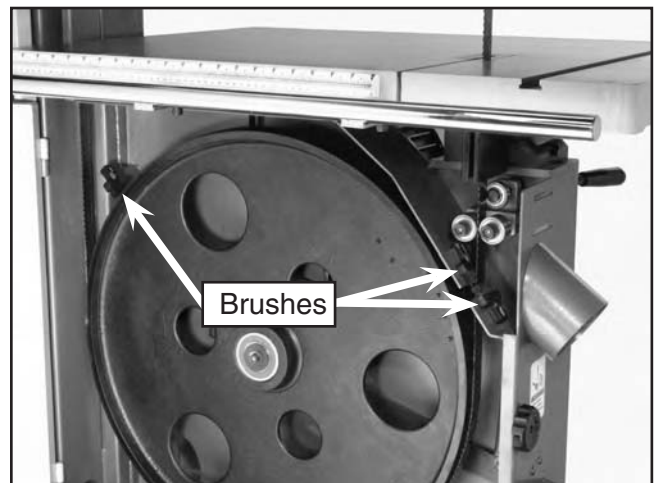

Figure 48. Brush locations.
2. Open the wheel covers, and locate the brushes (**Figure 48**).